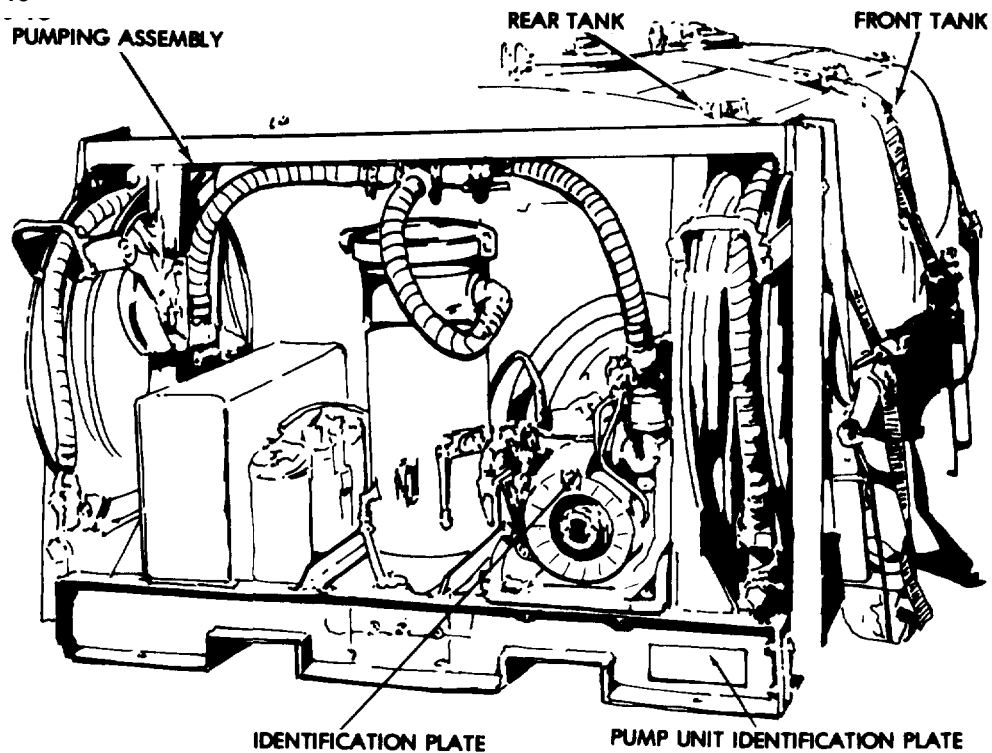

Figure 1-8. Pump Unit I.D. (GED).
f. Filter/Separator. The filter/separator (figure 1-8) is a vertical, 50 gpm (189 liters per minute) unit designed for maximum operating pressure of 75 psi (5.273 kg/sq cm). Both solids and water are removed from the fuel through the (blending) and filtering medium of the elements inside the filter/separator. The filter/separator consists of:
- (1) Four canisters.
- (2) Four filter elements.
- (3) One differential pressure gage.
- (4) One water sight gage.
- (5) One draincock.
a. Identification. I.D. Plates are: (figures 1-8 and 1-9).
(1) Engine Manufacturer's I.D. Plate is located on the motor and specifies the serial number, size, rpm, specification number, displacement, and date of manufacture (GED ONLY).
(2) Tank and Pump Unit I.D. Plate is located on the lower left frame.
(3) Tank I.D. Plate is located on the top-center, front of each of the two tanks. It specifies capacity, national stock number, serial number, manufacturer, date of manufacture, weight (empty), and fuel weight (in pounds-per-gallon).
(4) Pump Unit I.D. Plate is located on the lower right frame.
(5) Pump Assembly (EMD) I.D. Plate is located on top of base plate.